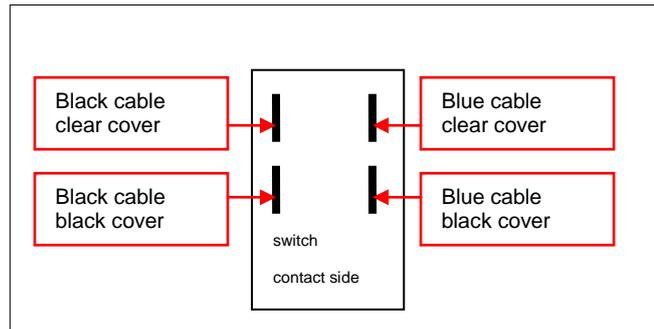

Fig. 34 - connecting diagram
- Change the switch, install cables according to fig. 34